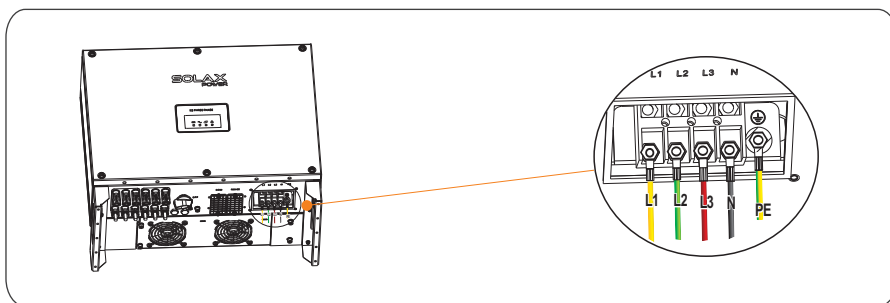

Figure 5.6 Tighten AC wire
**Step 3** Loosen the four screws lock on AC OUTPUT door, and connect L1, L2, L3, N and PE through AC OUTPUT terminal cover to the terminal block, use a screw driver to tighten screws to a torque of 3N·m, as shown in Figure 5.6.